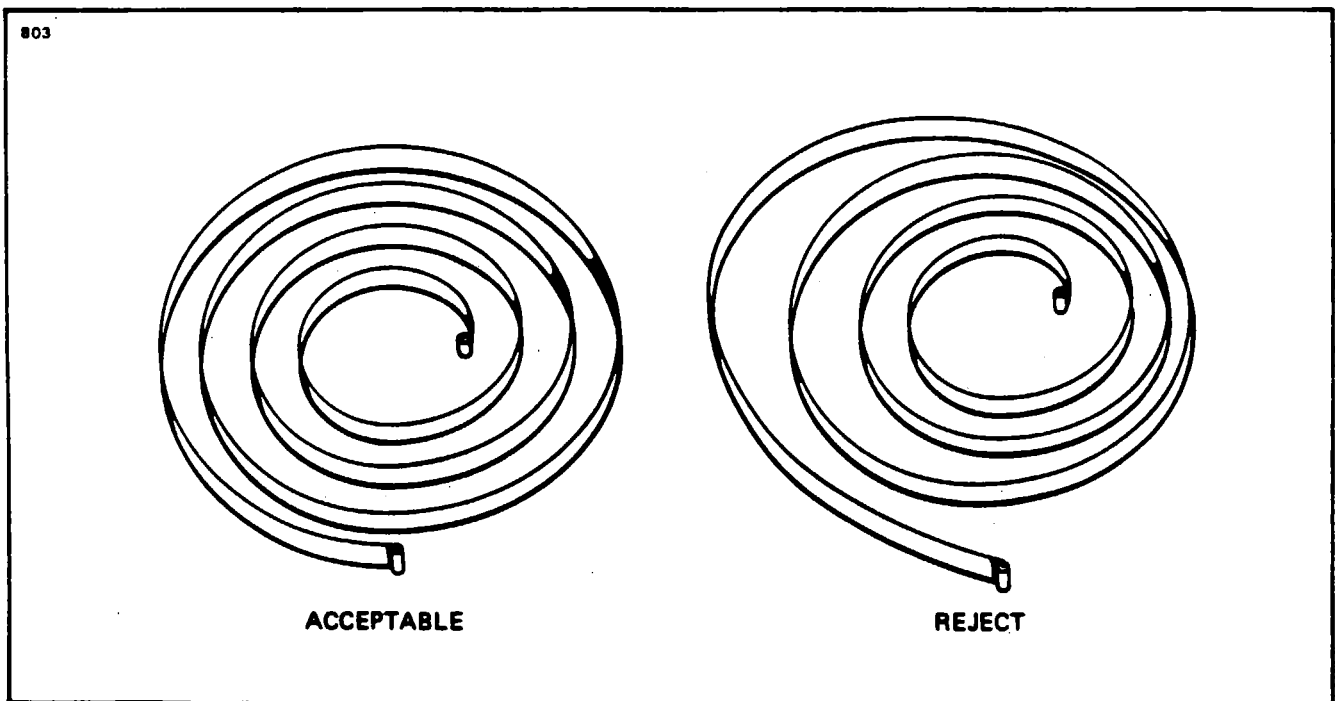

Figure 74-16. Acceptable and Deformed Coupling Springs
8. With spring released and free, it should form a smooth spiral curve with no sharp bends or flat spots. (Refer to Figure 74-16.) If spring is deformed, replace it.